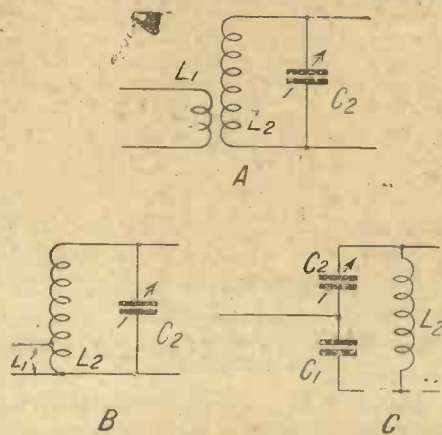

Fig. 1.—Transformer-coupled Circuits.
A diagrammatic representation of a transformer-coupled circuit is given in Fig. 1 (A). Any currents flowing in the primary circuit will affect the secondary by magnetic coupling.
Let us now consider the effect of a capacity-coupled circuit, such as that shown by Fig. 1 (C). Here the total voltage developed in the circuit is divided across the two condensers C_1 and C_2 , each of which carries a certain proportion of the full voltage. The actual proportion in which the voltage is divided across these two condensers, C_1 and C_2 , depends upon their relative values.
Conversely if we reduce the value of the condenser C_M , we should increase the coupling between the circuits until, if we remove the coupling condenser altogether, both the circuits will become part of the same circuit, which is the maximum possible coupling between them. Thus, reverting to Fig. 1 (C), we see that according to the relative proportions of the condensers C_1 and C_2 , so we can vary the coupling between the two circuits.